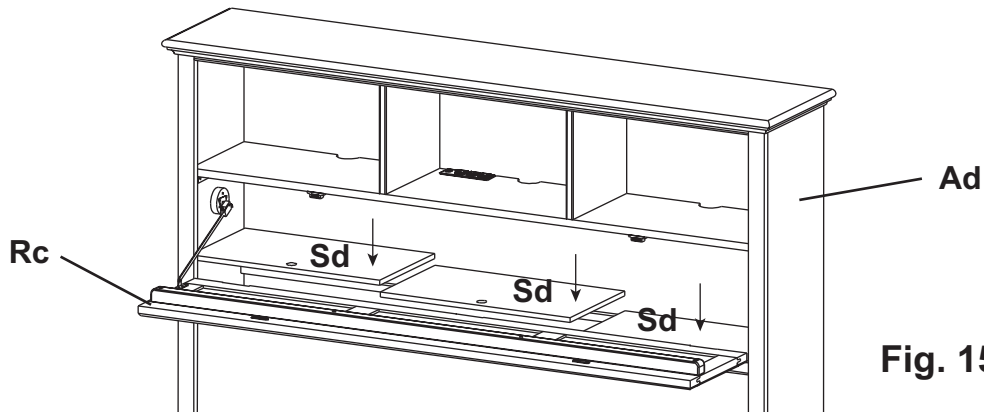

Fig. 15
- 15.** Unwrap the False Bottoms (Sd) and place them on top of the rails in the Headboard Assembly (Ad). Make sure the finger holes face forward as shown in Figure 15.